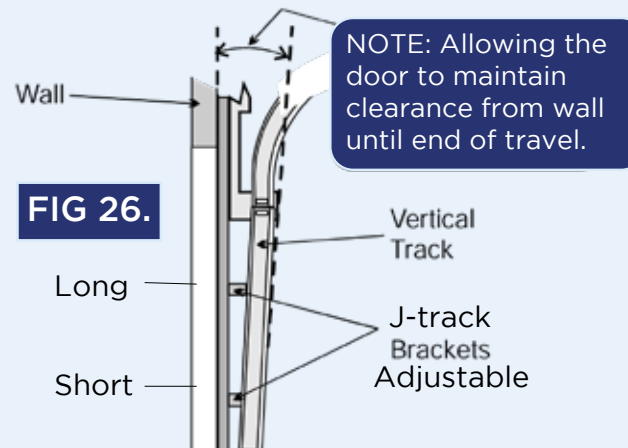

FIG 26.
- c) The Vertical Tracks, when viewed from the side, are not exactly vertical, i.e. they are not parallel to the wall. The tracks must be inclined at a slight angle away the wall as shown in Fig.26.